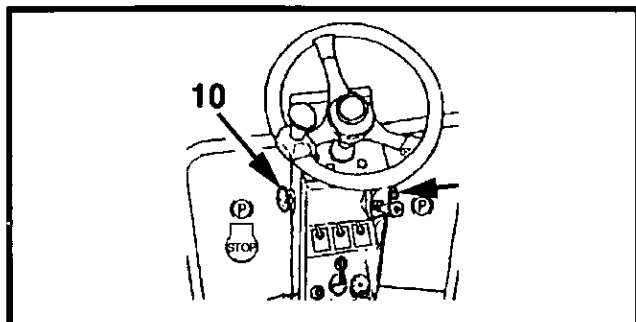

Figure 4-20 Parking Brake Switch
3. To ensure no machine movement after stopping, apply the parking brake switch (P), (10, Figure 4-20).